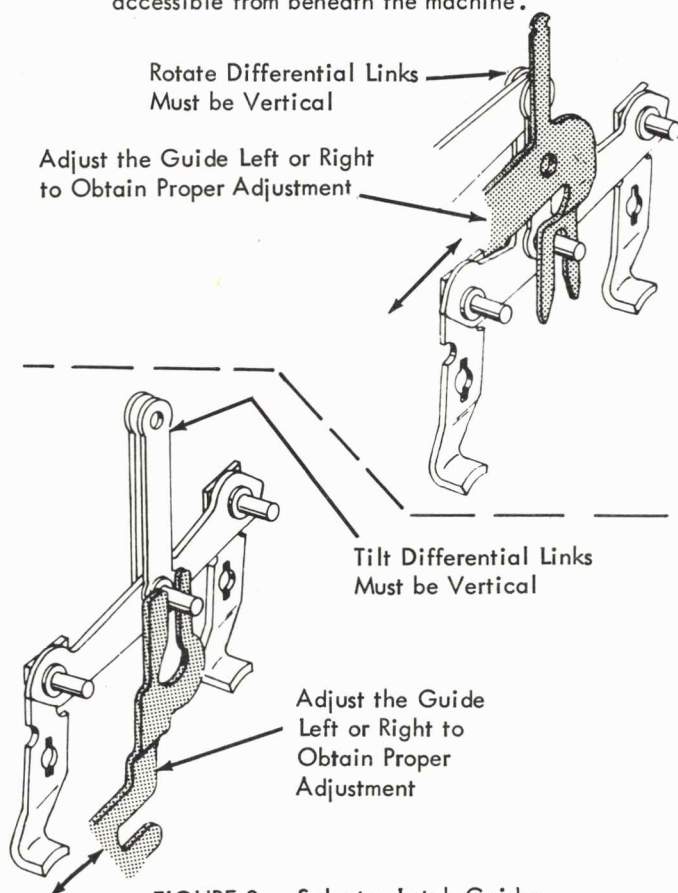

FIGURE 3. Selector Latch Guides
- a. The rotate and tilt differential guides should be adjusted left or right so that the vertical links of the two systems hang in a true vertical position (Fig. 3).